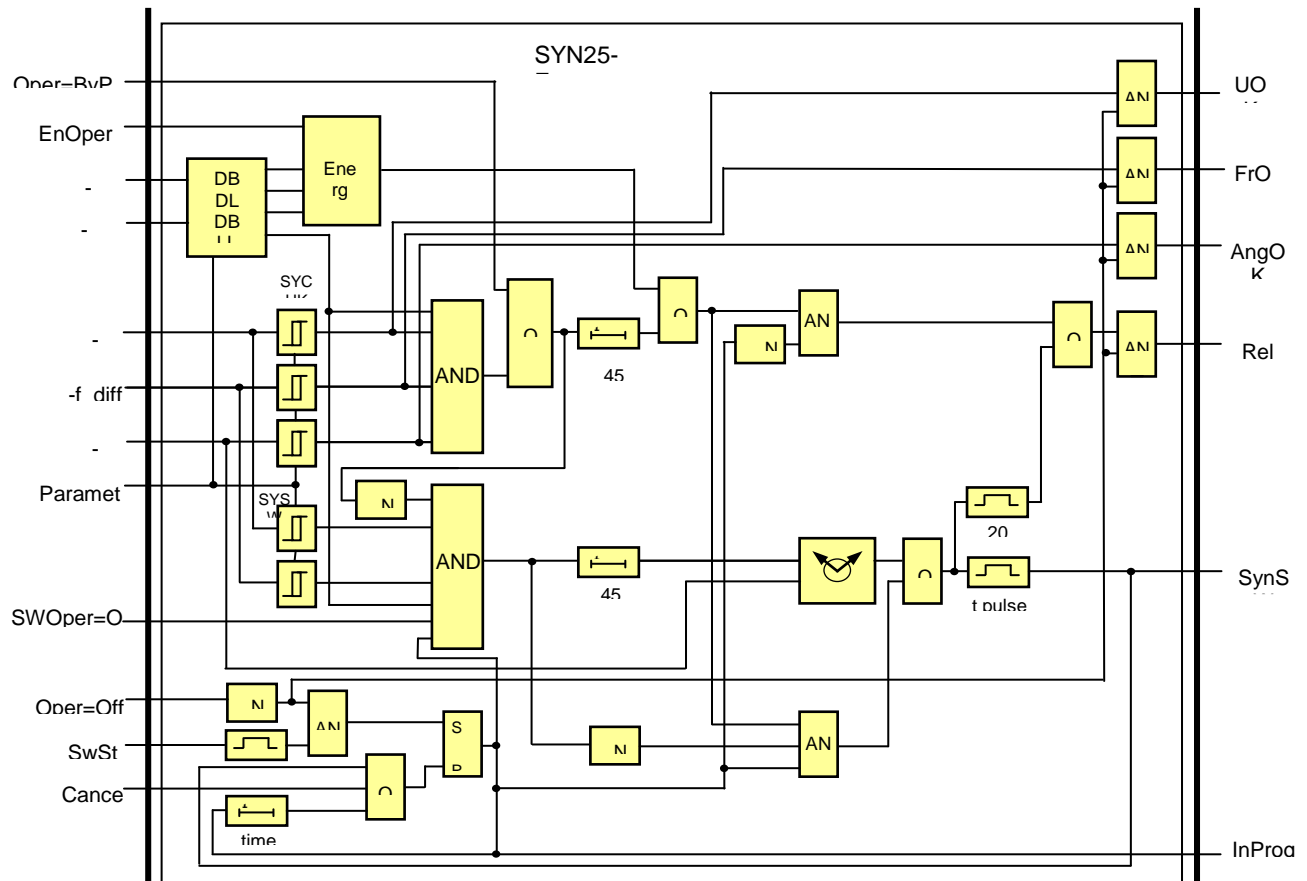

Figure 3-54: Synchrocheck evaluation function structure.
- These values are further processed by the evaluation software blocks (see Figure 3-54). The function is disabled if the binary input (Block) signal is TRUE. The activation of voltage transformer supervision function of the line voltage blocks the operation (VTS Block). The activation of voltage transformer supervision function of the selected bus section blocks the operation (VTS Bus1 Block or VTS Bus2 Block).